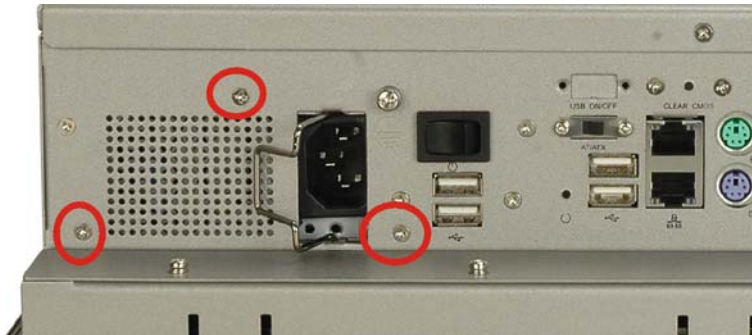

Figure 7-8: PSU Rear Panel Screws
- Step 5:** Remove the retention screws that connect the PSU bracket to the chassis (Figure 7-8).